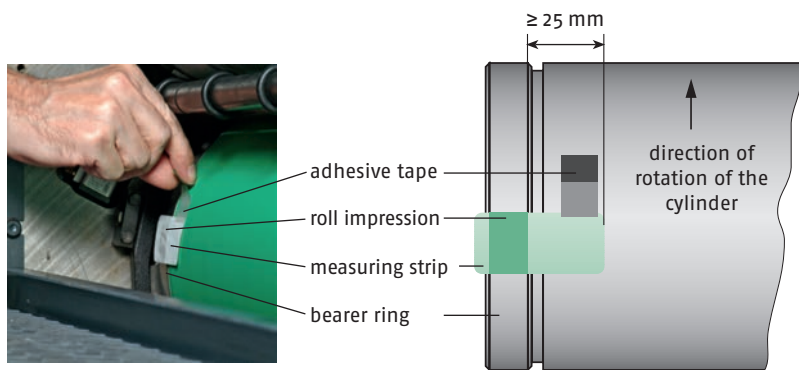

figure 1a: Alignment of the measuring strip for "roll check"
Check type 1: „Roll check“ (figure 1a and 1b)
- Roughly clean the spot where the measuring strip is fixed on the cylinder (see figure 1a).
- Fix the measuring strip on the bearer ring with the attached adhesive tape (preferably on side 1 and side 2 simultaneously and in the action area of the cylinder channel) in such a way that the rolling impression will leave approximately 30 mm of the measuring strip uncompressed (see figure 1a).